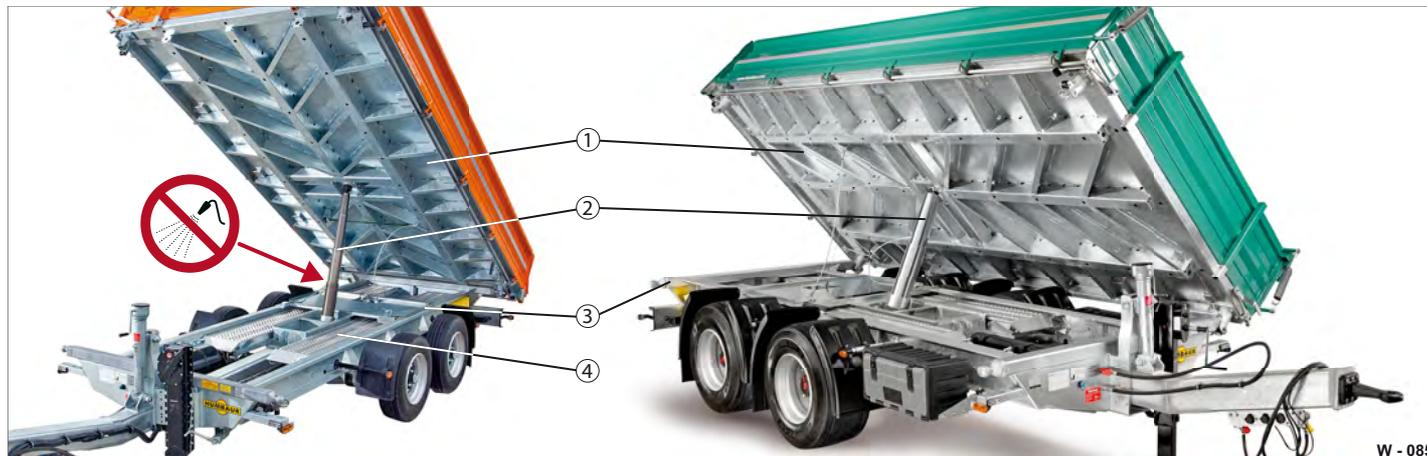

Fig. 83 Cleaning chassis/loading bridge
- ▶ Take the ramp planks (Fig. 83/4) out of the chassis (Fig. 83/3). Clean the ramp planks.
- ▶ Tilt the loading bridge (Fig. 83/1) to the side and rear when cleaning.
- ▶ Do not point the jet directly at the telescope cylinder. Protect the extensions and stripping of the telescope cylinder (Fig. 83/2) from spray water.